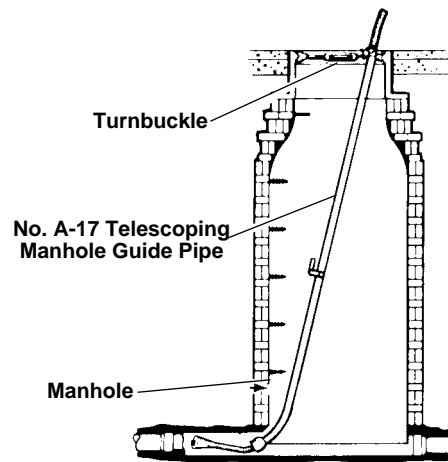

Figure 4 – Telescoping Manhole Guide Pipe
10. Set telescoping manhole guide pipe (Figure 4) for depth of manhole. Place turnbuckle into manhole opening.